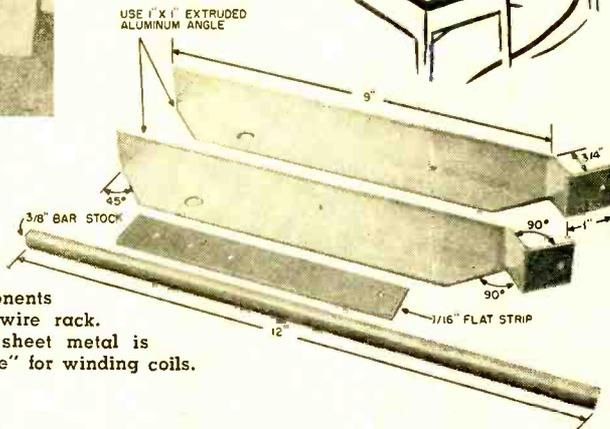

Fig. 5. The various components needed to construct the wire rack. The flat strip of 1/16" sheet metal is used as the "guide paddle" for winding coils.
The *wire rack* is made up of two pieces of 1" x 1" extruded aluminum angle stock and a 12" length of 3/8" diameter bar rod. The 3/8" rod may be aluminum, brass, steel, or plain wood doweling. The angle stock is drilled, cut, and formed as shown in Fig. 5. Drill or punch a 3/8" hole near the ends of the angle stock to accept the rod. Take care to insure a good snug fit.
A strip of 1/16" thick aluminum sheet is shown in Fig. 5 in addition to the components used in the *wire rack*. This is a "guide paddle," and is used when winding coils, but it is not assembled as part of the coil winder itself.
2. Drill or punch a small hole in the "guide paddle" (Fig. 5) slightly larger than the wire diameter. De-burr the edges of the hole to obtain a smooth, rounded edge which will not nick the wire.